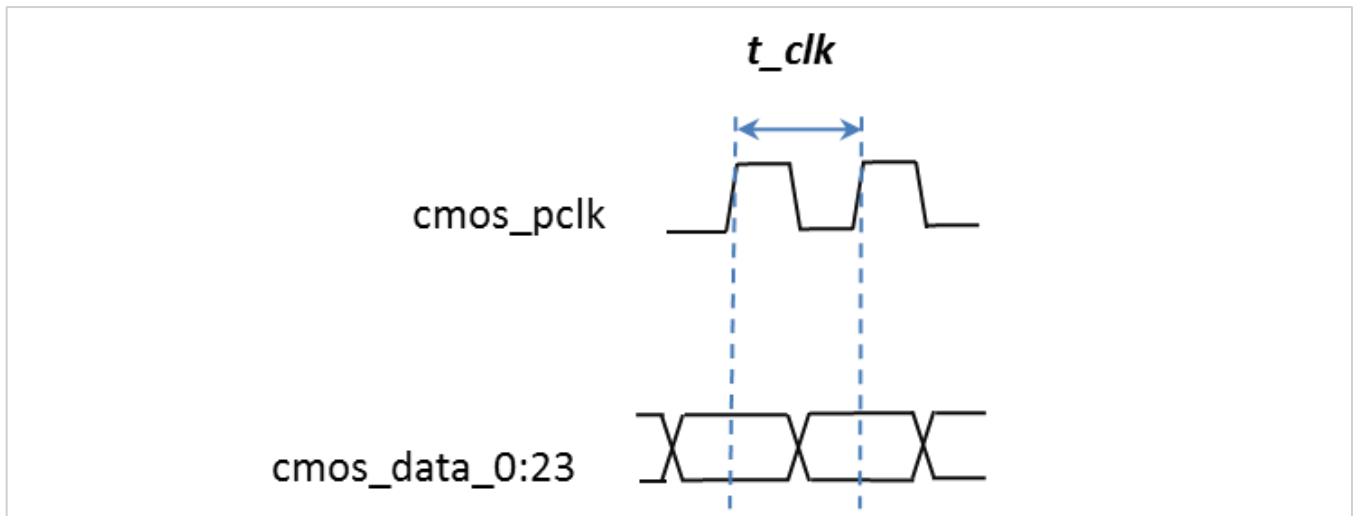

FIGURE 39: PHASE OF PIXEL CLOCK RELATIVE TO CMOS DATA
4. All signals in the CMOS channel are latched on the rising edge of the pixel clock, *cmos_pclk*, as illustrated in Figure 39. As shown in Table 10, the period of the pixel clock is user selectable with 27.000 MHz (factory default) intended for averager mode disabled and 13.500 MHz intended for averager mode enabled, see Section 7.2 for averager feature details.